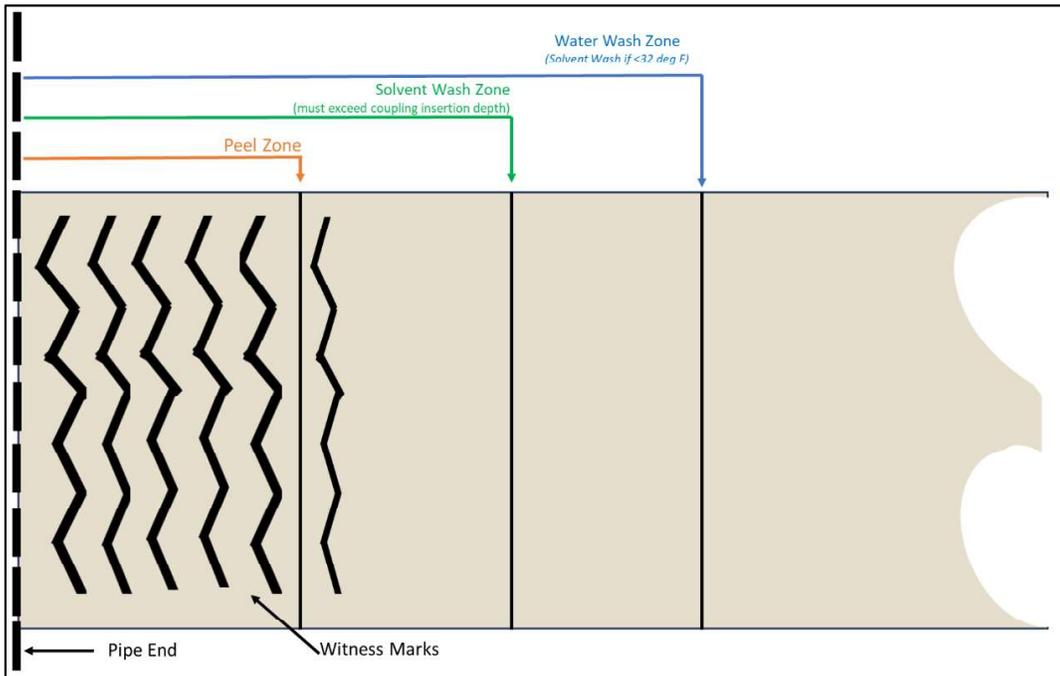

Figure 1: Pipe Markings – Electrofusion Coupling
★ F) **Establish clean zones on the pipe.** Establish and mark each of the clean zones as shown in Figure 1 below, and as described in the subsequent steps. The solvent wash zone shall encompass the entire insertion depth (length of pipe that will be exposed to the inside of the fitting during installation). All markings on the pipe shall be done using a non-oil-based silver Sharpie (e.g. MSC # 42258343) or Friatec marking pen (Contact Development Lab). Do not use keel, lumber crayons, or paint markers for marking pipe.
- ★ 1. **Mark Water Wash Zone:** Establish a water-wash area on the pipe end long enough to accommodate the peel and solvent wash zones as shown in Figure 1. Mark the boundary of the water wash zone on the pipe and ensure that subsequent cleaning does not exceed this established zone.